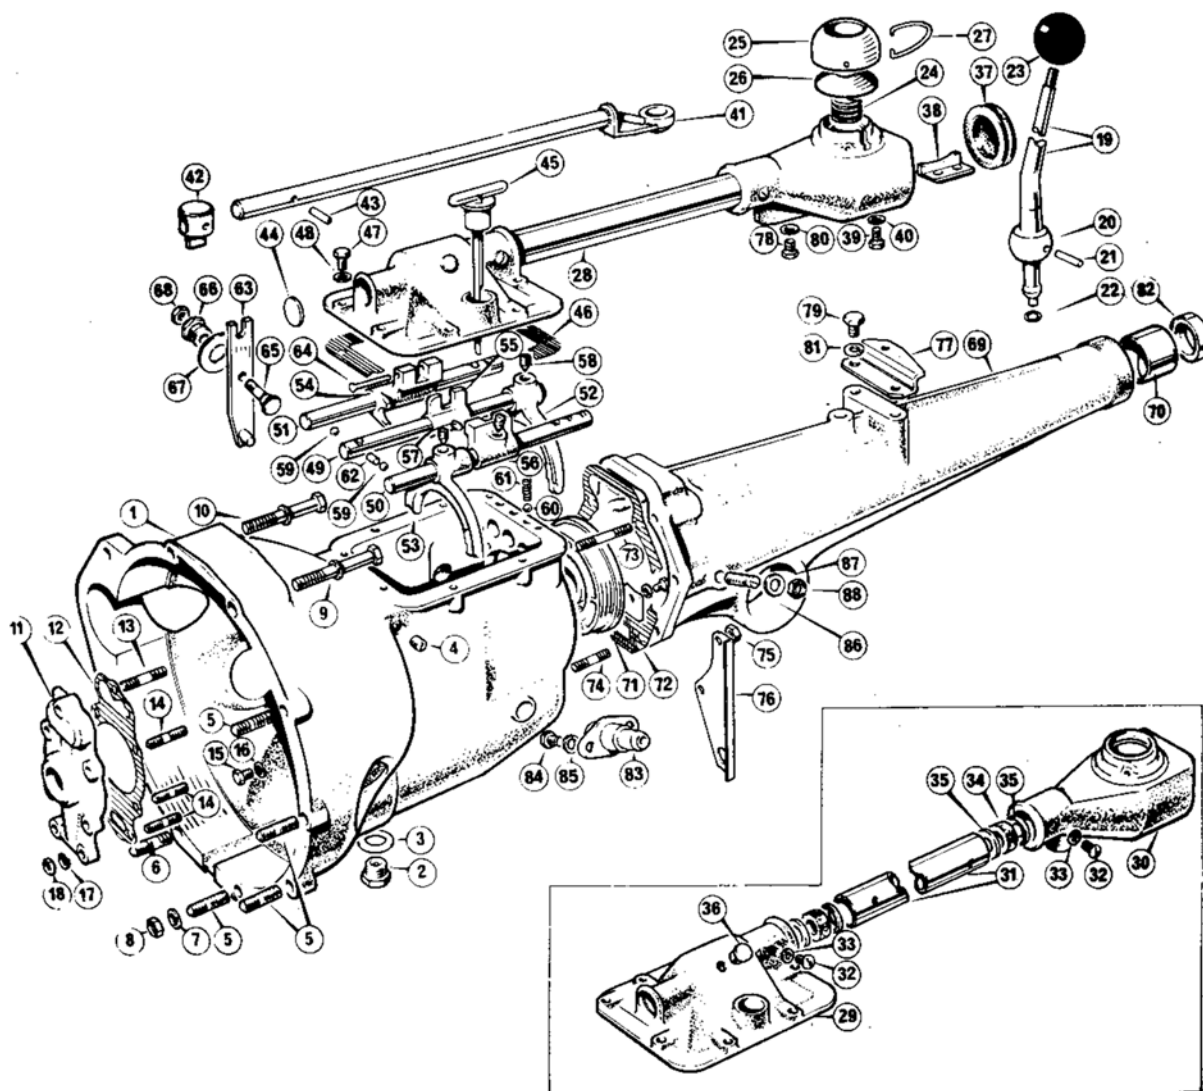

Figure 1 Gearbox exterior and selectors
Gearbox removal and replacement (Figure 1)
3. Carefully lift the remote control assembly from the extension housing complete with top cover gasket (**Figure 1**).